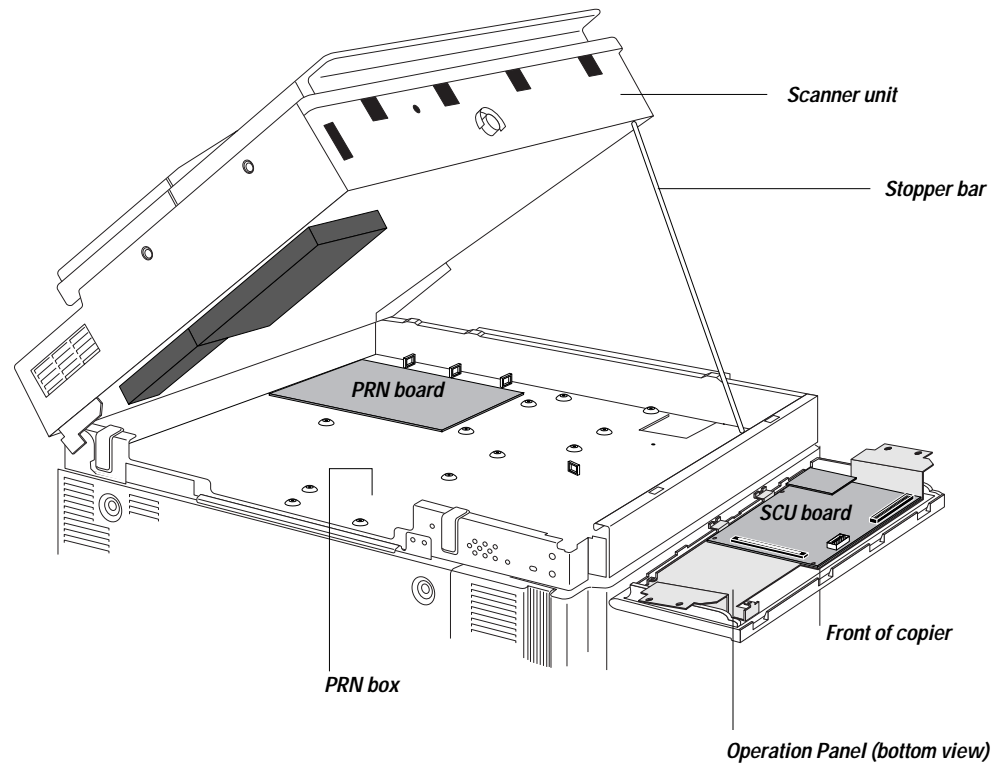

Figure 2-4 Accessing the PRN box
6. *Lift the scanner unit and prop it up with the stopper bar (see Figure 2-4).*